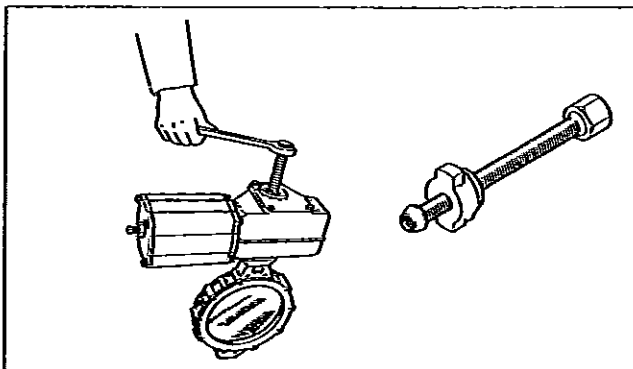

Fig. 18. Removing the actuator with an extractor
- Detach the actuator using a suitable extractor. The correct tool can be ordered from the manufacturer (see Fig. 18).